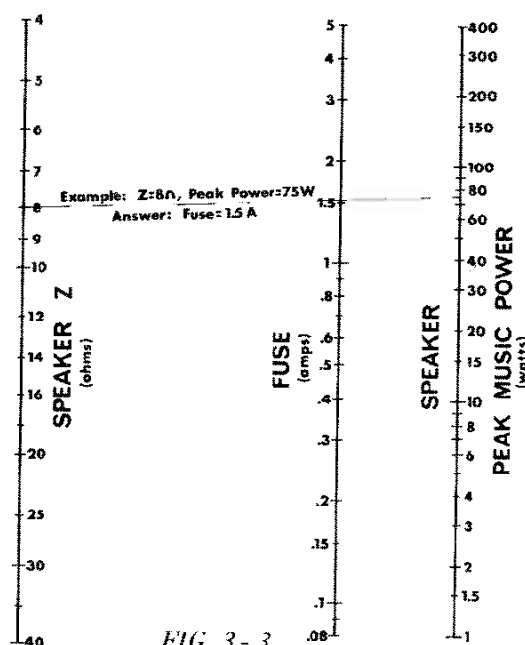

FIG. 3-3
Fuses help to prevent damage due to prolonged overload, but provide essentially no protection against damage that may be done by large transients and such. To minimize this problem, high-speed instrument fuses such as Littlefuse 361000 series are most appropriate for such applications. For a nomograph showing fuse size vs. loudspeaker ratings refer to Fig. 3-3.
3. Connect an 8 ohm (or higher) load to the output cable. A fuse is recommended! (Refer to Fig. 3-3 on pg. 17 of D-150 manual).